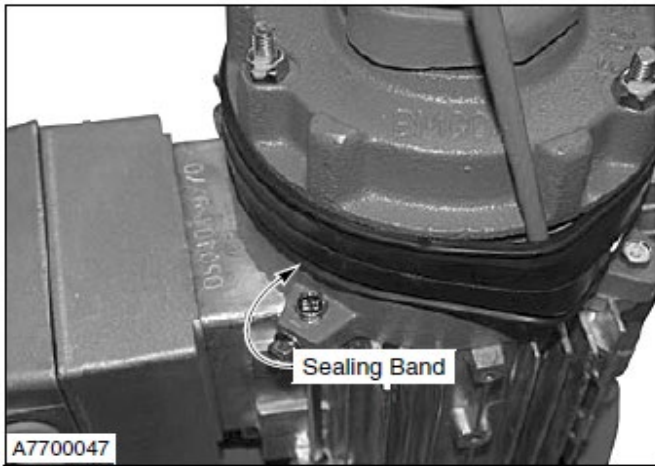

Figure 50
3. Remove sealing band. (See Figure 50)